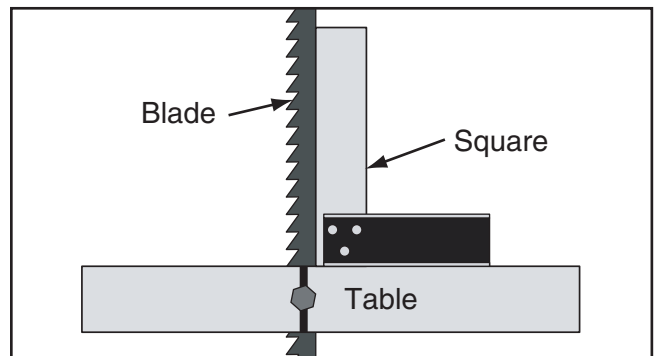

Figure 34. Squaring back of blade and table.
2. Place a square on table and against back of blade, as illustrated in **Figure 34**. Table should be perpendicular to back of blade.